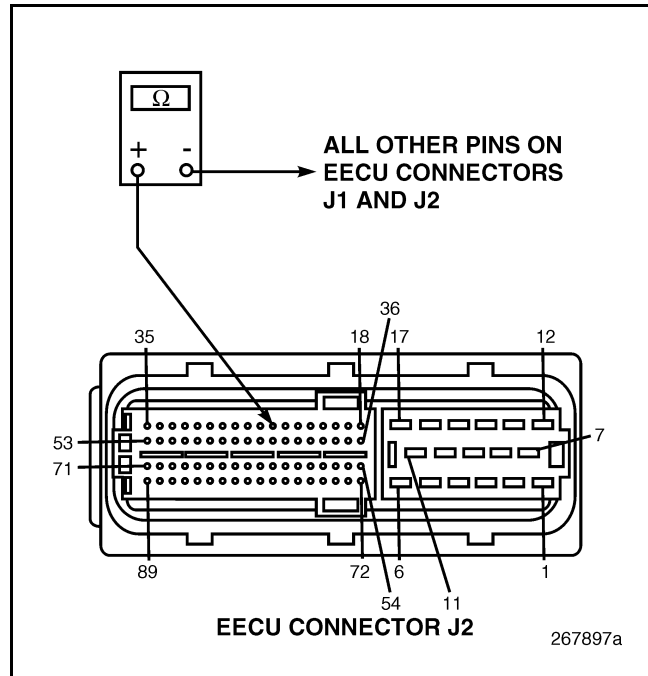

Figure 32
4. Check for continuity between EECU harness connector J2 pin 35 (reference voltage line) and all other pins in EECU harness connectors J1 and J2 (see Figure 32).